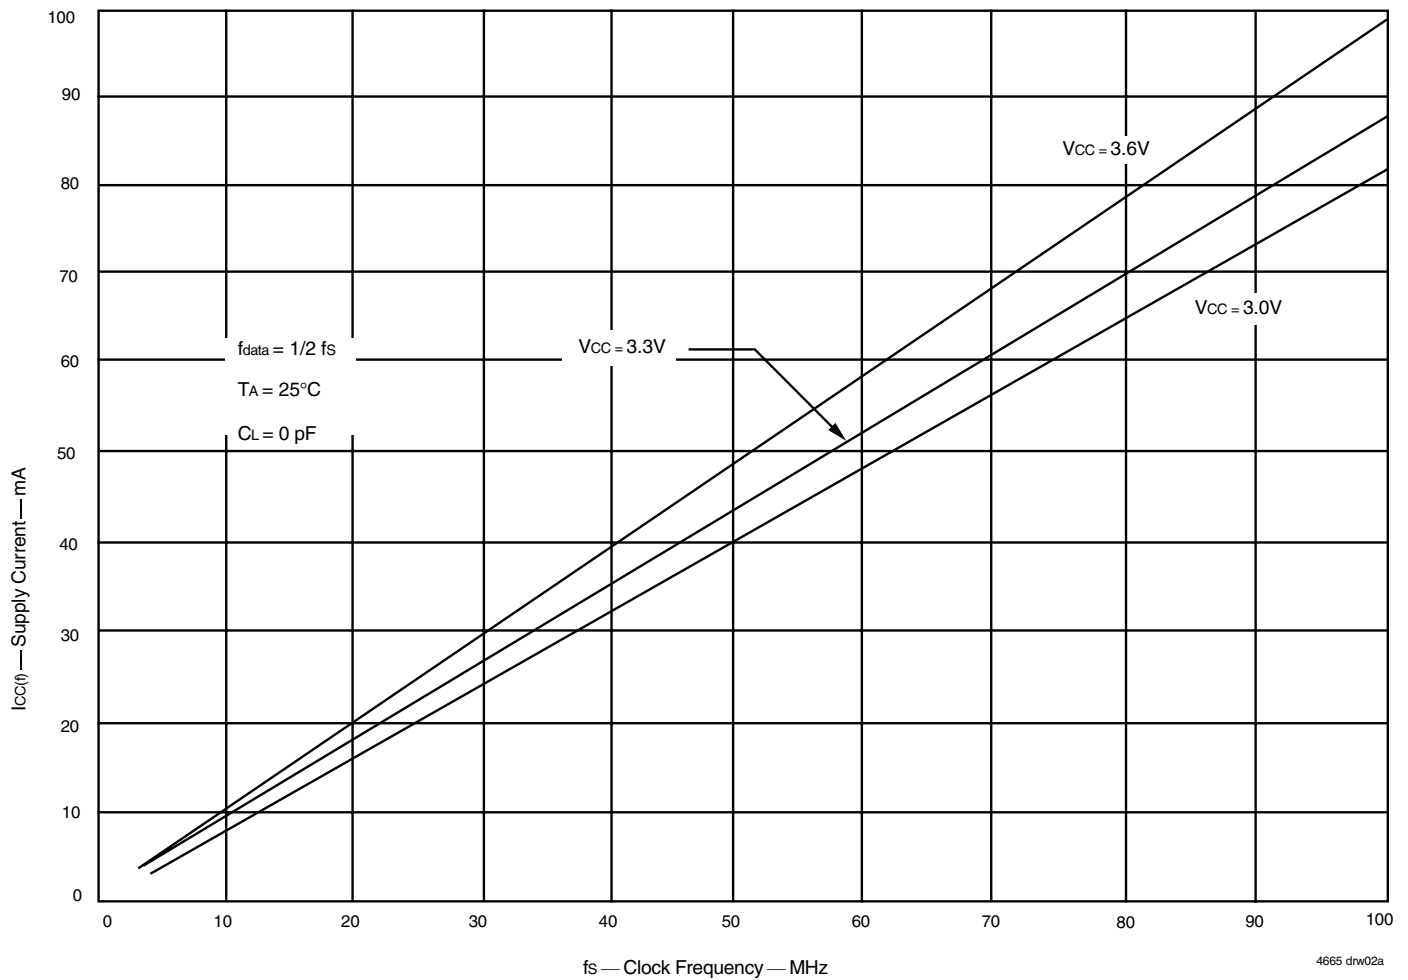

Figure 1. Typical Characteristics: Supply Current (I_{CC}) vs. Clock Frequency (f_s)
- For additional I_{CC} information, see Figure 1, *Typical Characteristics: Supply Current (I_{CC}) vs. Clock Frequency (f_s)*.
The $I_{CC}(f)$ current for the graph in Figure 1 was taken while simultaneously reading and writing a FIFO on the IDT72V3656/72V3666/72V3676 with CLK A, CLK B and CLK C set to f_s . All data inputs and data outputs change state during each clock cycle to consume the highest supply current. Data outputs were disconnected to normalize the graph to a zero capacitance load. Once the capacitance load per data-output channel and the number of these device's inputs driven by TTL HIGH levels are known, the power dissipation can be calculated with the equation below.
With $I_{CC}(f)$ taken from Figure 1, the maximum power dissipation (P_T) of these FIFOs may be calculated by: